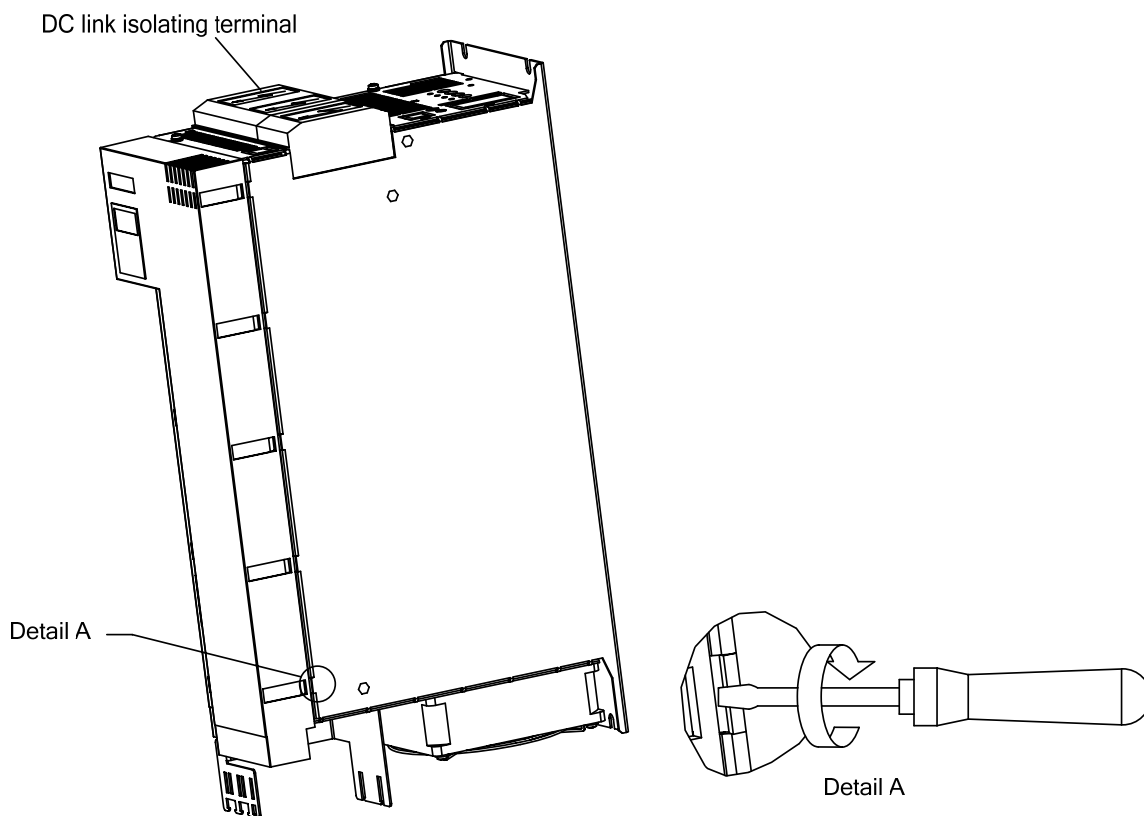

Fig. 5-8
- ◆ Unscrew the four fixing screws from the bottom and topside of the device. Carefully lever out the front cover from the five detent lugs on the right-hand side of the device using a slot-head screwdriver (see Detail A, Fig. 5-8). The front cover needs to be loosened only on one side, the right-hand side panel. Front cover and left-hand side panel remain as one unit.